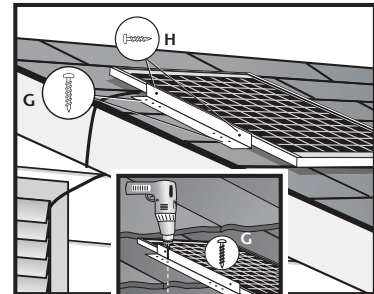

Figure 2
Step 2 Locate area to install the solar panel on the roof where it will gather the most amount of sunlight (southern exposure is recommended). Attach the L-brackets to the long sides of the solar panel with the self-tapping (H) screws into the pre-drilled holes on the panel frame. Attach solar panel to roof using the provided wood screws (see Figure 2). Caulk around the wood screws to prevent leaks. **FOR TILE ROOFS:** Pre-drill hole in tile to accommodate the anchors provided (I). Tap anchors into holes and secure L-bracket using provided screws (see inset).